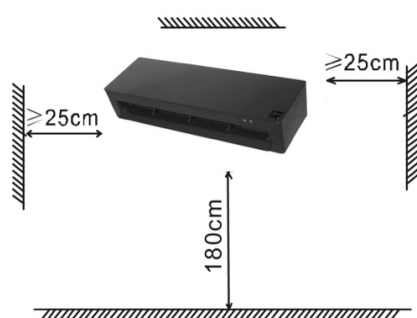

Fig.1
1. Prepare a space to install the appliance (Fig. 1).